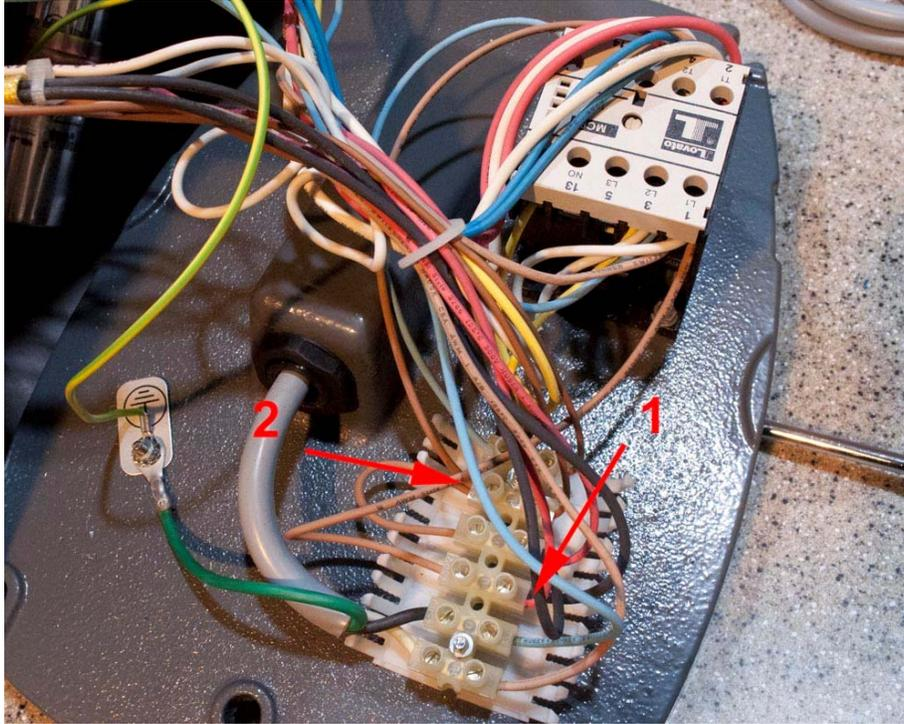

Figure 4. Inside view of the bottom plate. The top is the contactor. The bottom is the wiring terminal block.
Step 2. Identify the cable, contactor and terminals by comparing Fig 4 and Fig. 2. The arrow #1 and #2 are pointed to the same terminals in both figures. Loosen the cable tie first for easy access to the cables. Remove the red and black wires at Arrow #1 terminal by loosening the screw. Remove the two brown wires at Arrow #2 terminals by loosening the screw. Use electric tape to wrap electric tape on the tip of the wires that were just removed. The tape is very important for the brown wire that has the other end connected to the terminal 2 of the contactor (it is the "6") in the "Timing the Automatic Version of Mazzer Automatic Grinder" guide.